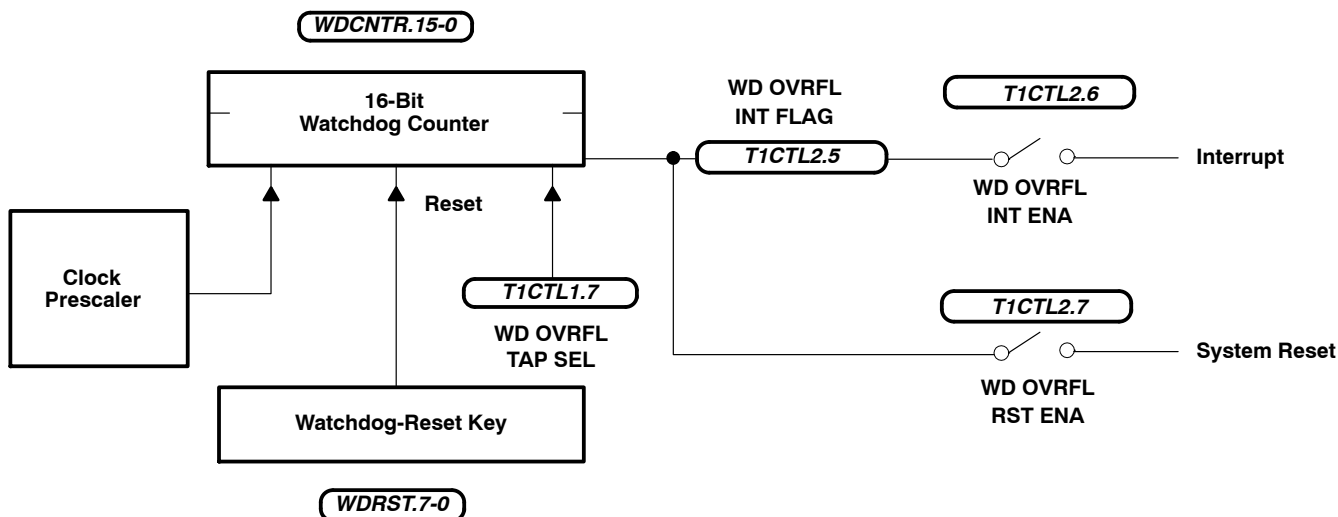

Figure 9. Standard Watchdog
- Standard watchdog configuration (see Figure 9) for EPROM and mask-ROM devices: